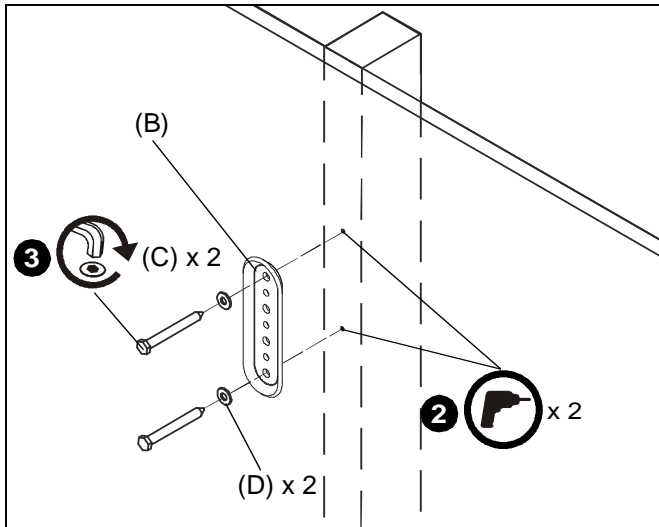

Figure 1
1. Determine location for mount keeping in mind display size, extension, and pitch/roll requirements. Wall plate (B) **MUST** be installed into wood stud.
2. Using wall plate (B) as a template, drill two 1/8" diameter pilot holes through top and bottom holes of bracket (B) into wall structure. (See Figure 1)
3. Using 7/16" wrench, install two 1/4" x 2 1/2" hex head lag screws (C) through two 1/4" washers (D), wall plate (B), and drywall into wood stud (See Figure 1). Ensure wall plate (B) is vertical, then tighten screws (C).